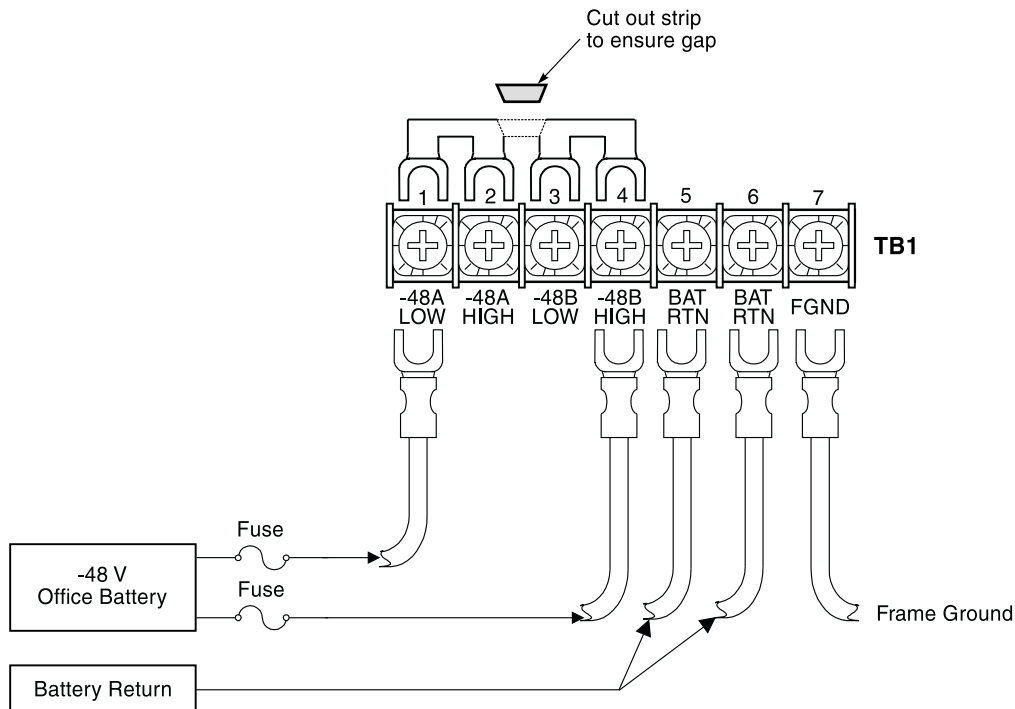

Figure 7. Redundant Shelf Power Wiring
A four-position jumper is in place on the TB1 block (Figure 7). This jumper shorts all of the 48 VDC inputs together to prevent an alarm condition when only one input feed wire is connected. To provide redundant shelf powering:
- 2 Remove the four-position jumper (refer to Figure 7 on page 24) and discard.